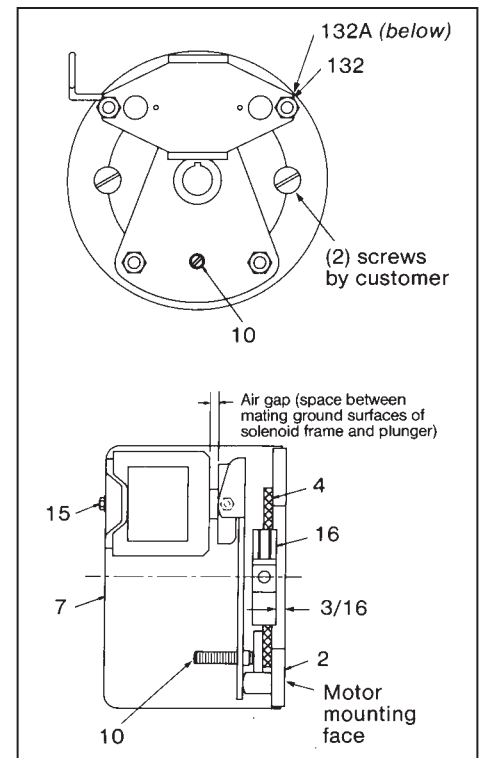

Figure 1: 48,000 Series style
- To replace the solenoid coil, disconnect coil. Cut the plastic wire (162) holding the coil leads onto the solenoid mount stud.
- Remove the two solenoid nuts (132) and solenoid frame (79A) from the solenoid mount studs.
- Install new coil (12A) into solenoid frame (79A) with same relative position as old coil. Assemble new plunger guides (82), plunger guide screw(s) (84) and lock washer(s) (84W). If original lead wires (139) are damaged, replace with new lead wires. New terminal screws (139S) and lock washers (139W) are also provided in kit.
- Install new coil (12B) with lock tab at top of solenoid frame (79A) with lead wires in same relative position as old coil. Check that lock tab locks. Place plunger guide (82A), lock tabs down, into top of solenoid frame (79A). Install wire tie (162).
**If air gap exceeds  $\frac{1}{8}$ ", adjustment should be made. See Figure 1.**
- Replace housing (7) and housing screws (15).
**Note:** If solenoid buzz is noted, remove housing and readjust frame alignment by a slight repositioning of solenoid mounting nuts (right hand) (132) and (132A). Check that plunger is in center of frame. Recheck air gap. If adjustment is necessary, see Step 8 and Figure 1. Replace housing and screws.